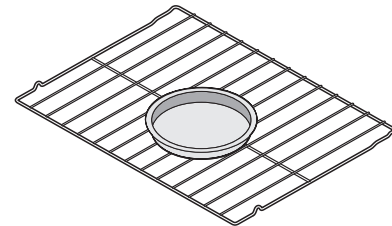
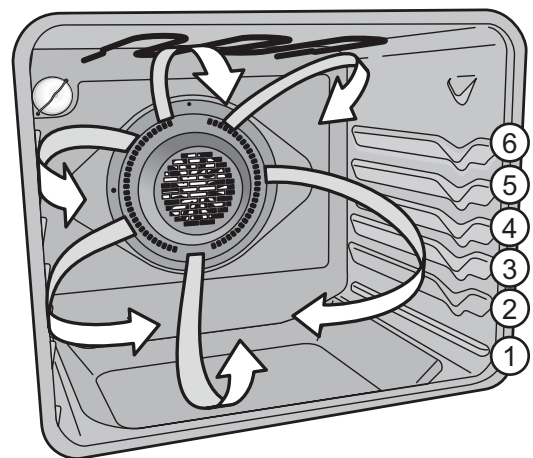

Figure 12: Single rack baking for convenience foods
Figure 13: Oven rack position (4) best for cooking convenience foods
- Always place food in center of the oven on rack position 4 (Figure 13). Place the food as shown in Figure 12.